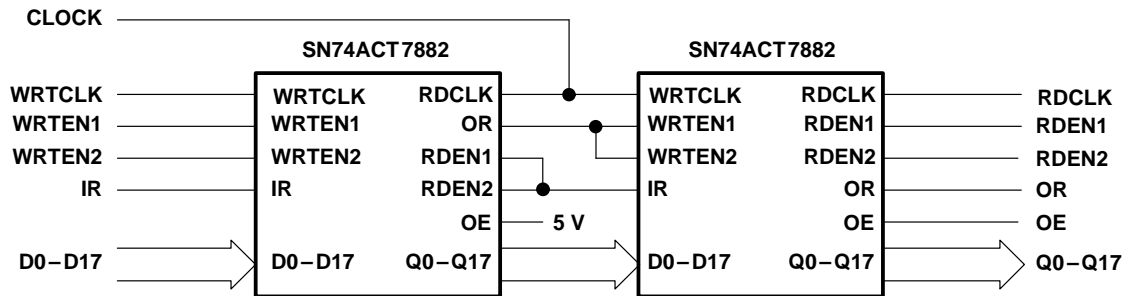

Figure 9. Word-Depth Expansion: 2048/4096/8192 Words × 18 Bits, N = 2
The SN74ACT7882 is expandable in both word width and word depth. Word-depth expansion is accomplished by connecting the devices in series such that data flows through each device in the chain. Figure 9 shows two SN74ACT7882 devices configured for depth expansion. The common clock between the devices can be tied to either the write clock (WRTCLK) of the first device or the read clock (RDCLK) of the last device. The output-ready flag (OR) of the previous device and the input-ready flag (IR) of the next device maintain data flow to the last device in the chain whenever space is available.